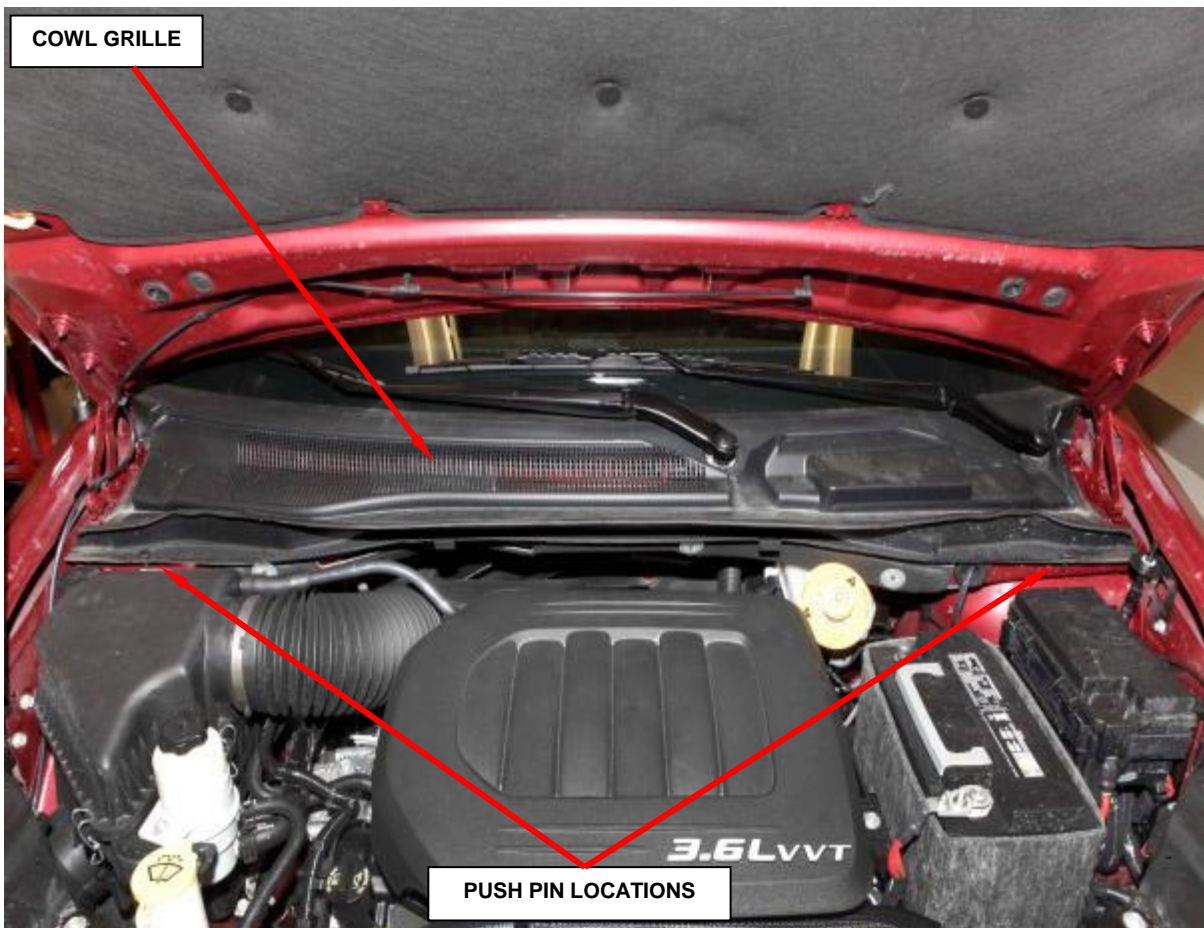

Figure 2 – Cowl Grille
- b. Remove and save the two push pins for the cowl grille and pull the cowl grille towards the front of the vehicle (Figure 2).